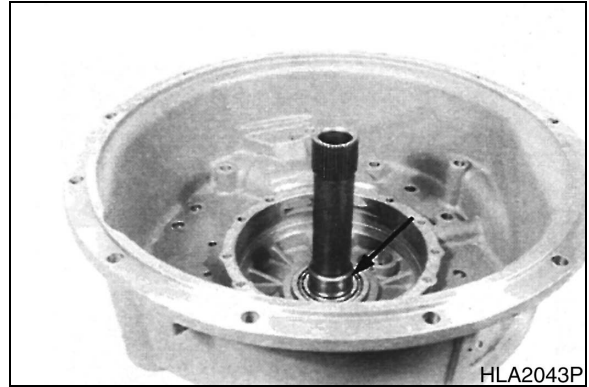

Figure 79
8. Remove rectangular ring (Figure 79).